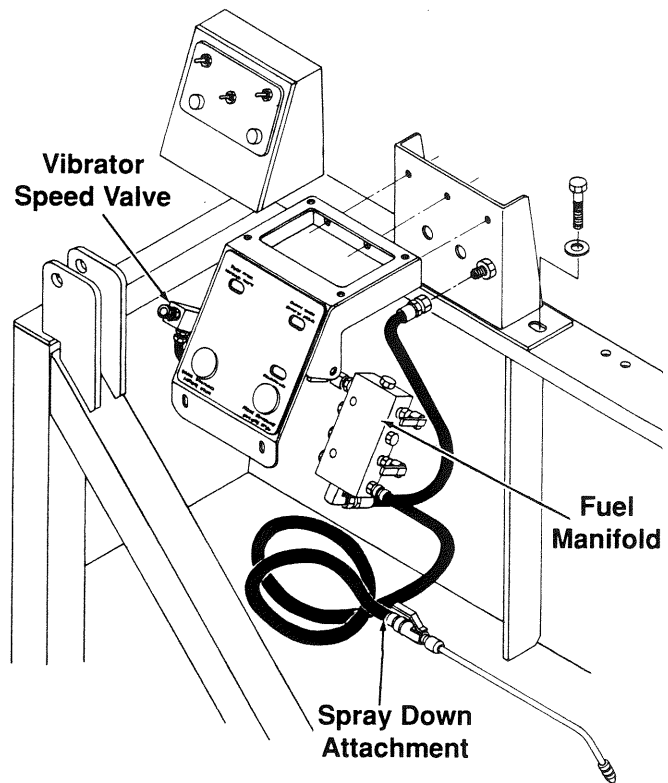

Figure 9
(1) Release spring clamp from burner duct, release latches and position blower so spray pattern can be observed.
(2) Turn fuel pump *on*, open fuel valve on burner control panel and note spray pattern. If fuel has an uneven spray, clean nozzle and flame cone.
(3) If no fuel is present, close fuel valve and remove fuel line at nozzle. If fuel in line, clean nozzle.
(4) If no fuel is in the line, open fuel valve and flush. If line does not flush, check the fuel level and make sure the filter element is not plugged. Remove manifold base and check for fuel on pressure side of manifold. (*Figure 9*)
(5) If fuel is present at manifold, remove manifold and clean. If no fuel is present, check for fuel at pump.
(6) If fuel is present at pump, the fuel line is plugged between pump and manifold.
(7) If no fuel is present, the fuel pump is bad or fuel line is plugged between tank and pump.
(1) Fully extend any hydraulically operated extensions.
(2) Attach the hose to the fitting behind burner fuel panel of the Fastach or at filter under right side of the paver's hood. (*Figure 9*)
(3) Turn main key switch *on*.
(5) Turn fuel pump *on*.